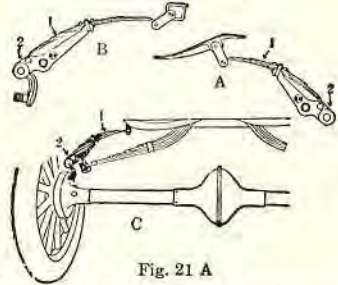

Fig. 21 A
Fig. 21. Example of a pneumatic or air-type shock absorber (Westinghouse): An air chamber is made up of two sections, one of which telescopes into the other. The outer section (A) is attached to a bracket on the frame of the car. The inner section is attached to one end of the springs (B). The chamber is partly filled with oil, through the filling plug in cap (C). The filling plug is fitted with a Schrader tire type of air valve through which the chamber may be charged with air at any desired pressure.